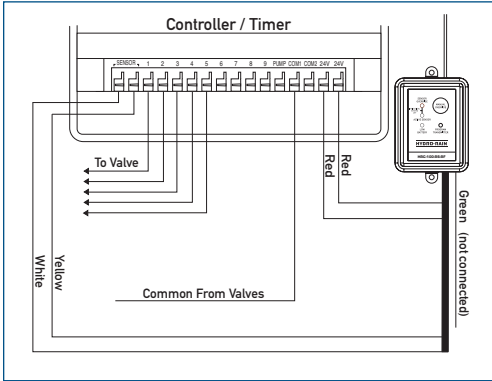

Figure 3: Wiring sprinkler timer with sensor terminals without booster pump
2. Check your timer for pre-installed sensor terminals. If the timer does not have sensor terminals, proceed to step 3. If it does, take the wire from rain/freeze receiver and connect the white (common) wire to one sensor terminal and the yellow (normal closed) wire to the other. (See Figure 3) Skip to step 5.
2. Check your timer for pre-installed sensor terminals. If the timer does not have sensor terminals, proceed to step 3. If it does, take the wire from the rain/ freeze receiver and connect the white (common) wire to one sensor terminal and the yellow (normal closed) wire to the other. (See Figure 3) Skip to step 5.